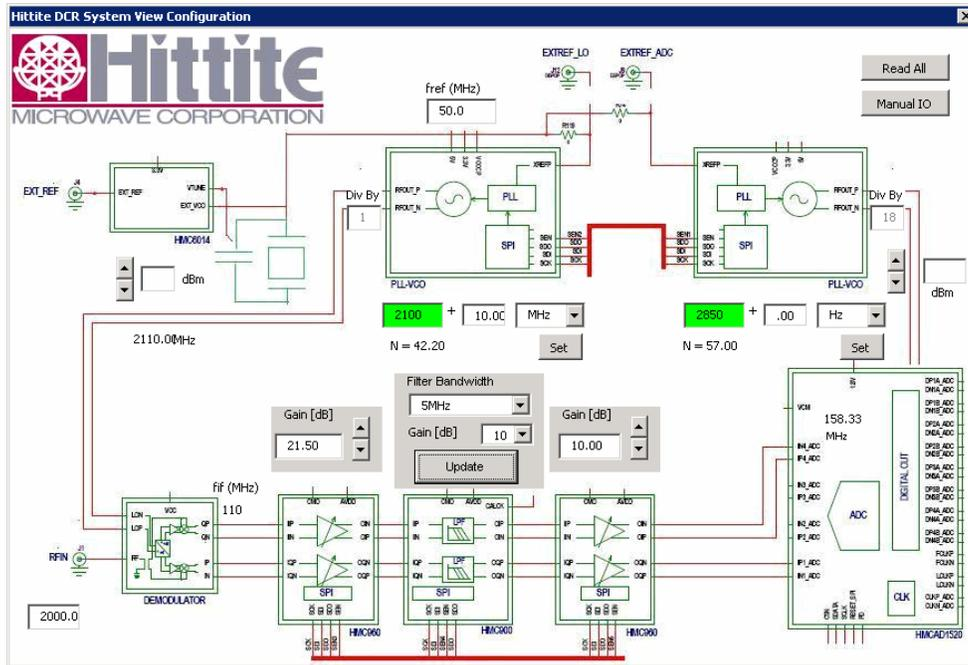

Figure 30. System View Configuration dialog showing restored gain settings and 5 MHz LPF bandwidth setting
- Restoring earlier gain settings with second VGA gain now set at 10 dB, but reducing the low pass filter bandwidth to 5 MHz (input signal is single channel WCDMA signal with bandwidth of 3.84 MHz) is shown in Figure 30.